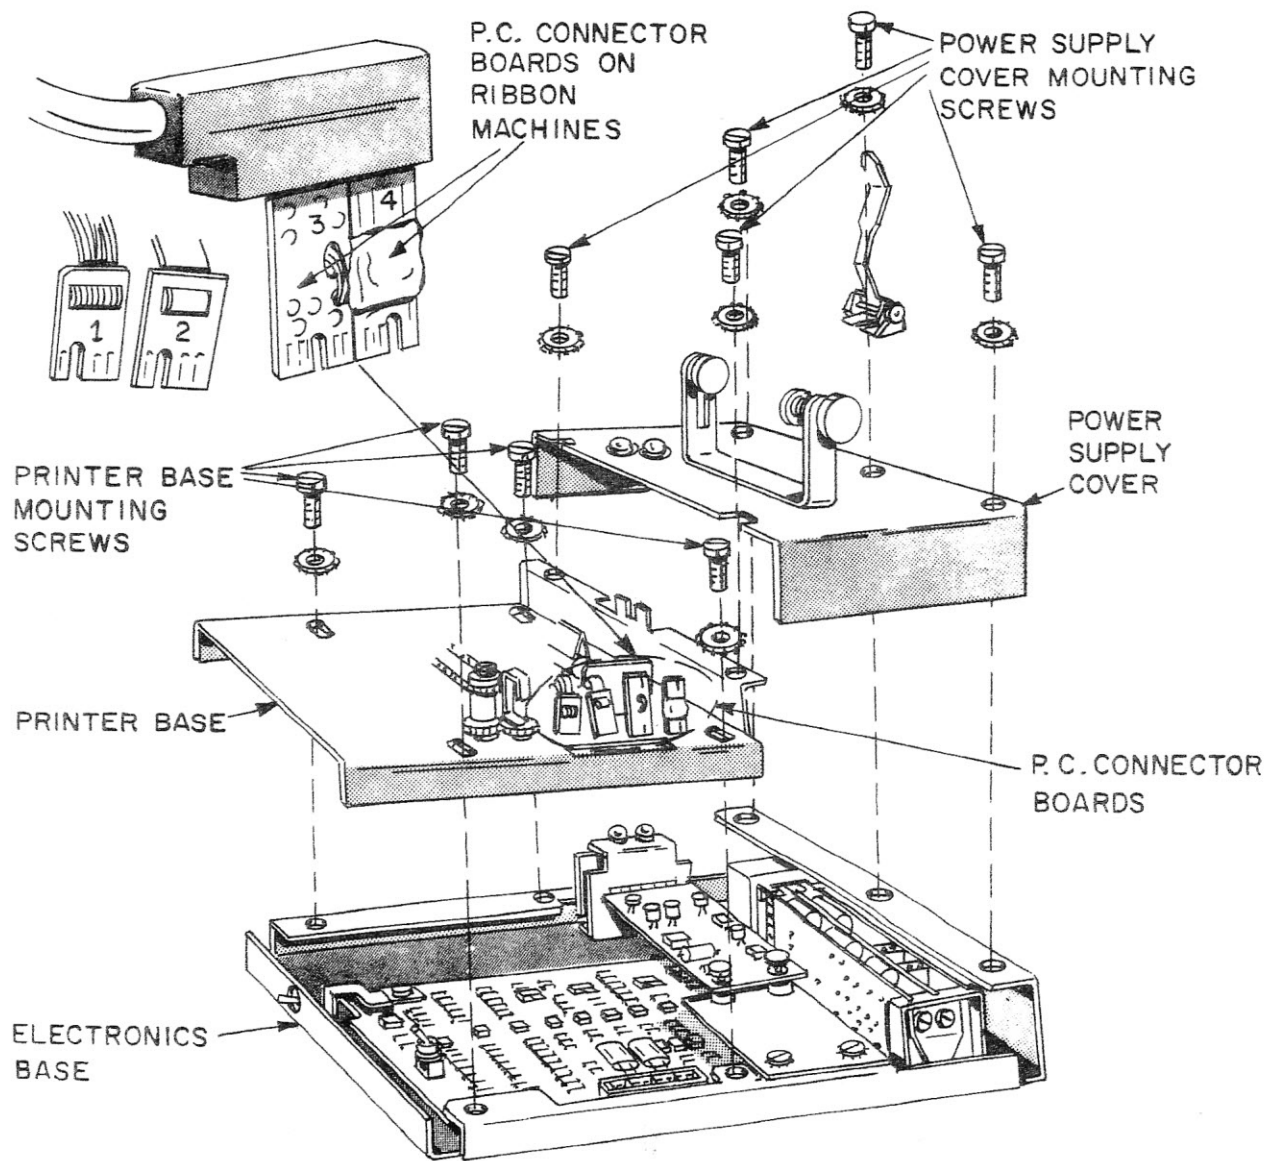
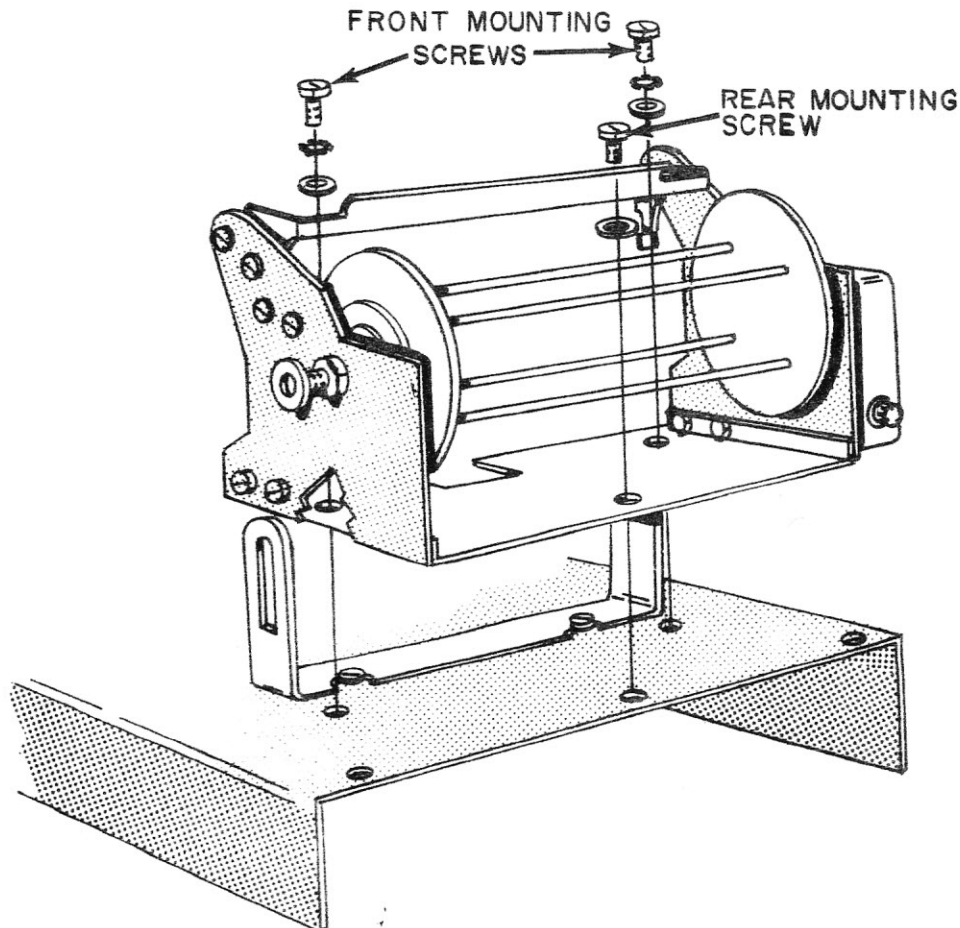

Figure 2-16. Removal of Power Supply Cover and Printer Base
Figure 2-17. Paperwinder Installation Diagram
- (1) Remove the Typing Unit Cover as directed in Sub-paragraph "a" above.
- (2) Note the orientation of ~~and tag~~ the four P.C. Connector Boards to the right of the typing unit. **Consult Figure 2-16.**
- (3) Disconnect the four P.C. Connector Boards at the right side of the Typing Unit by simply pulling upward on each of them. [NOTE: Machines having ribbon mechanisms have an additional connector attached to the top of two of the P.C. Connector Boards. This connector can be removed together with the other boards, and must be re-installed as shown in **Figure 2-16** when re-assembling unit.]
Consult Figure 2-16 as you Proceed.
- (3) Remove and discard the three machine screws along the top rear edge of the Power Supply Cover. See Figure 2-16.
- (4) Position the Paperwinder Mounting Bracket over the Power Supply Cover so all three mounting holes are properly aligned.
- (5) Using the two 8-32 x 15/16 machine screws, No. 8 lockwashers, and No. 8 flatwashers supplied with the Paperwinder Assembly, temporarily secure the front of the Paperwinder mounting bracket to the Power Supply Cover. See Figure 2-17.
- (6) Using the 6-32 x 3/8 pan-head machine screw and large flat washer supplied with the Paperwinder Assembly, secure the rear center position of the Paperwinder mounting bracket to the Power Supply Cover. See **Figure 2-17**.
- (7) Assemble the Paperwinder Take-up Reel by inserting the tapered ends of each pair of rods into their respective holes in the opposite reel disc.
- (8) Pull outward on the spring-loaded knob and hold it firmly while seating the motor drive shaft into the center of the left hub of the Take-up Reel and aligning the right hub of the reel with the spindle in the spring-loaded knob. Release the knob.
- (9) Follow procedure outlined in **Paragraph 3-2b** for loading paper roll into machine.
- (10) If required, slide the Paper Roll Bracket either to the left or right (loosen its two mounting screws using an offset common-head screwdriver) until the left edge of the paper roll is 1/4 or 7/32 of an inch from the left edge of the window opening.
- (11) Adjust the Paperwinder Assembly until approximately 1/32-inch visual clearance exists between the inside face of the right-hand reel disc and the right edge of the paper roll.
- (12) Tighten the three mounting screws to permanently secure the Paperwinder Assembly to the Teleprinter Power Supply Cover.
- (13) Again consult **Paragraph 3-2b** (steps 8-11) of Section 3 for procedure for threading paper into Paperwinder.
- (14) Plug the Paperwinder Power Cord into an AC power outlet of the proper voltage (Check tag attached to power cord) and frequency. Turn both Paperwinder and Teleprinter Power Switches to the ON position.